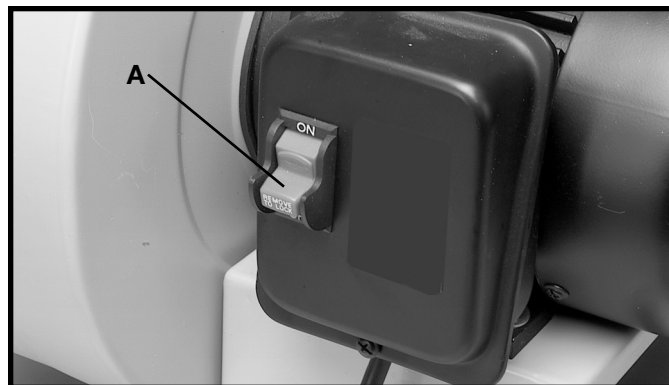

Fig. 24
1. The on/off switch (A) Fig. 24 is located on the front of the machine. To turn the machine **"ON"**, move the switch up to the **"ON"** position.
2. To turn the machine **"OFF"**, move the switch (A) down to the **"OFF"** position.